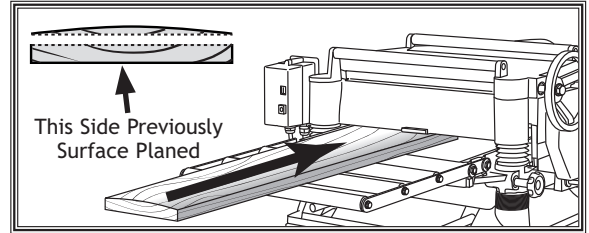

Figure 31. Surface plane on a thickness planer.
2. **Surface Plane on a Thickness Planer:** The opposite face of the workpiece is surface planed flat with a thickness planer (Figure 31).